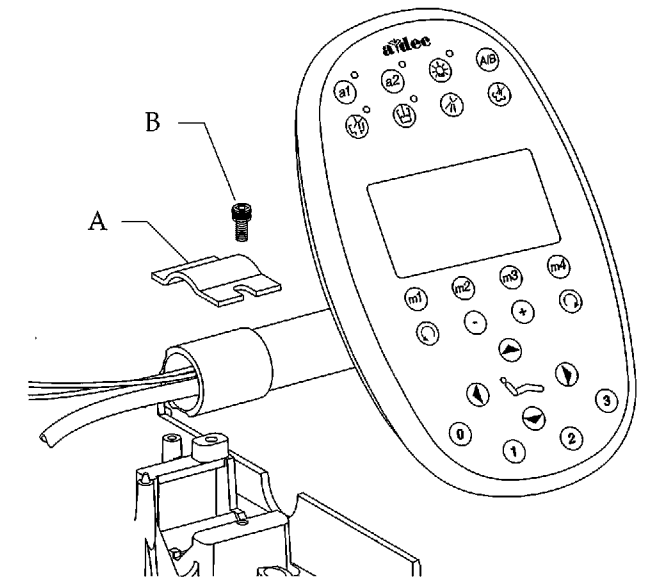

Figure 100. How to mount the deluxe touchpad onto the delivery system. (A) bracket, (B) mounting screw
- Attach the deluxe touchpad to the delivery system with the mounting screw and the bracket (see Figure 100).